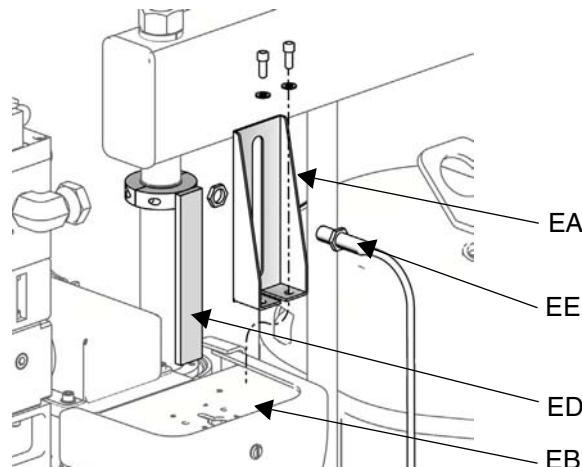

FIG. 9: D200 and D200s supply systems
4. For D60, D200, and D200s supply systems: Attach the actuator (ED) to the ram piston rod, near the top, so it passes in front of the sensor (EE) at the correct level for drum low or drum empty. See FIG. 9.